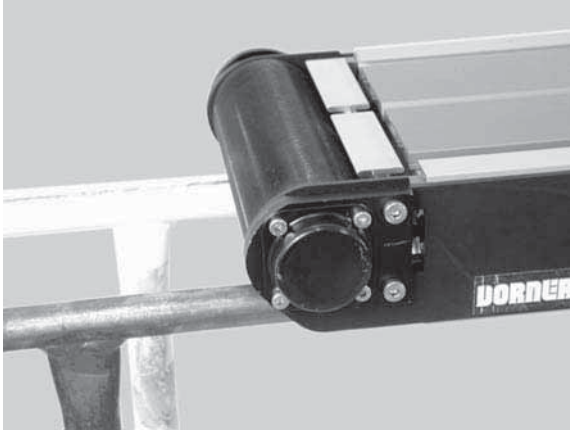

Figure 66
3. Remove four shaft cover screws (Figure 66, item CC). Remove the shaft cover (CD).